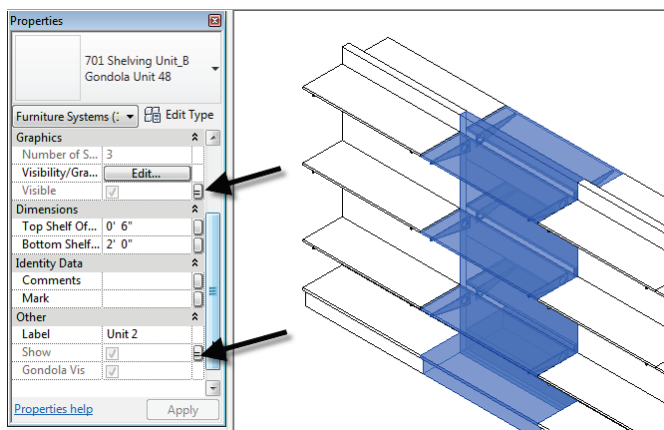

Figure 28—Create Family Types and assign default values for each Family Type parameter
6. Repeat for units 3 through 5 (see Figure 28).